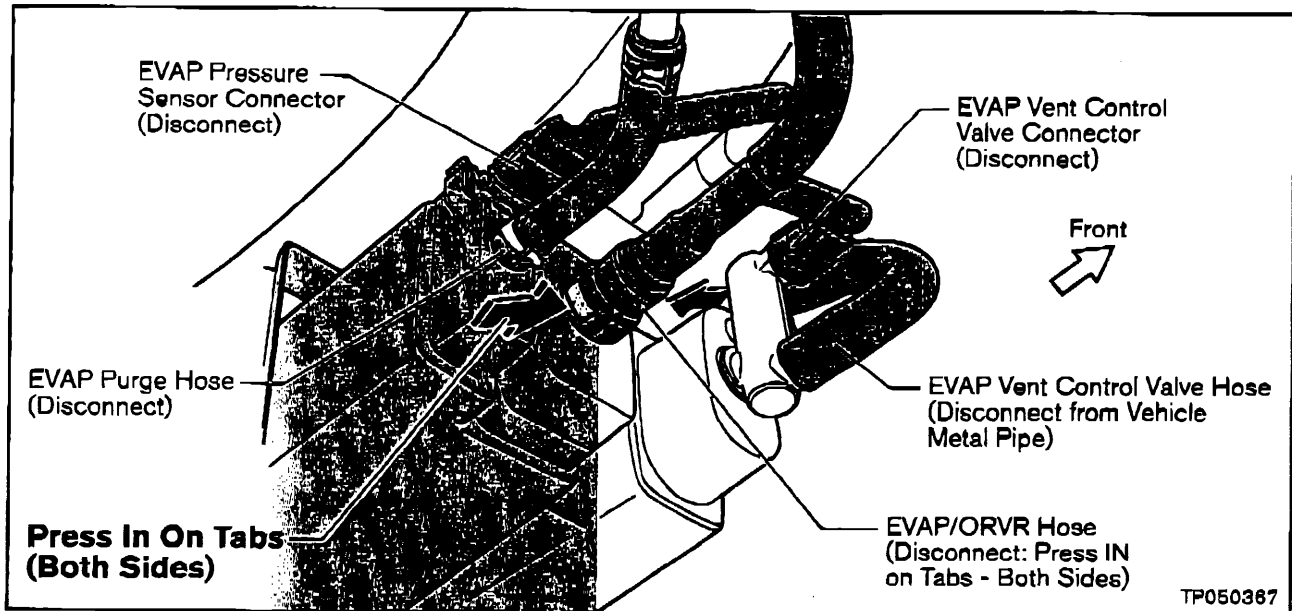

Figure 10
2. Disconnect the following from the EVAP Canister (refer to Figure 10):